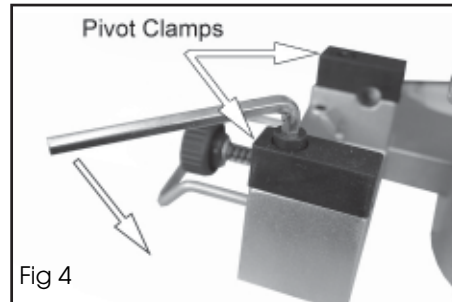

Fig 4
1. Remove the bolts from both pivot clamps as shown in Fig 4.